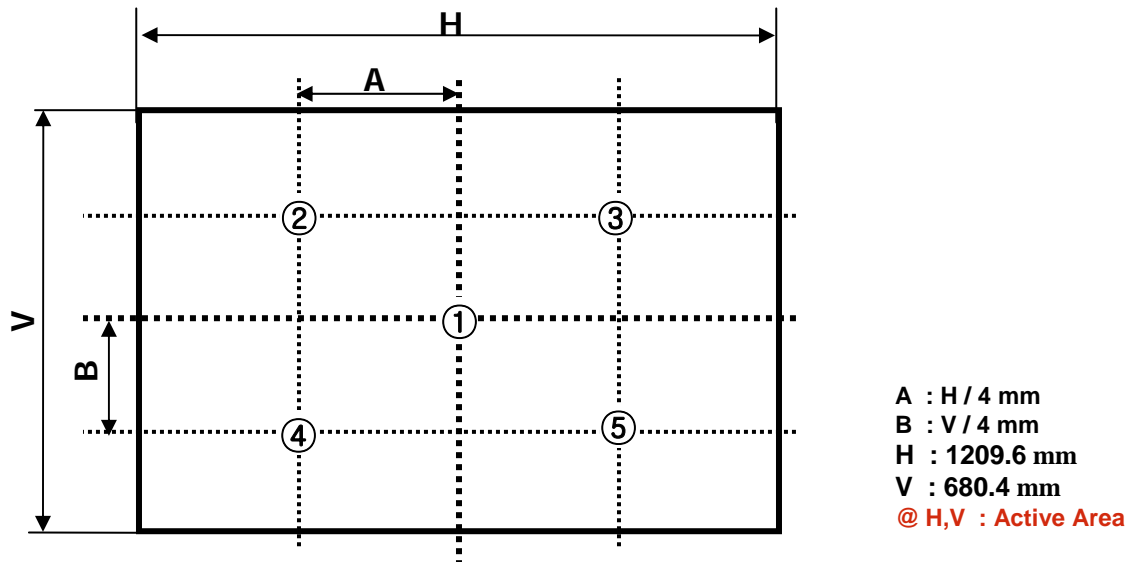

FIG. 2 5 Points for Luminance Measure
2. Surface Luminance(L_{WH}) is the luminance value measured at an approximate 50cm distance from the center 1-point of LCD surface as all pixels displaying white. See FIG. 2 for more information.
For more information, see the FIG. 2.